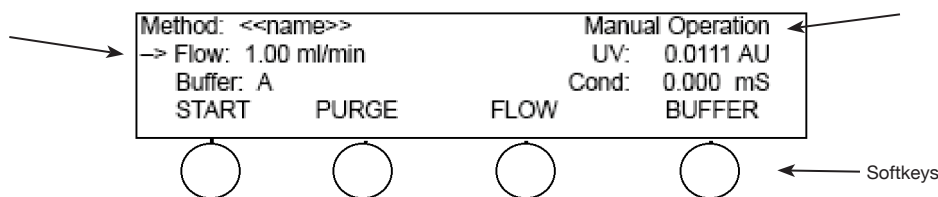

Figure 7.3. When you turn on the BioLogic LP system controller, the system automatically shows Manual mode for pump operation.
4. Verify that the arrow on the left side of line 2 of the LCD points to the right (Figure 7.3). This arrow indicates the direction of flow. If the arrow points to the left press the **Flow** softkey followed by the **Forward** softkey to change the direction of flow. Press the **OK** softkey to confirm the change.